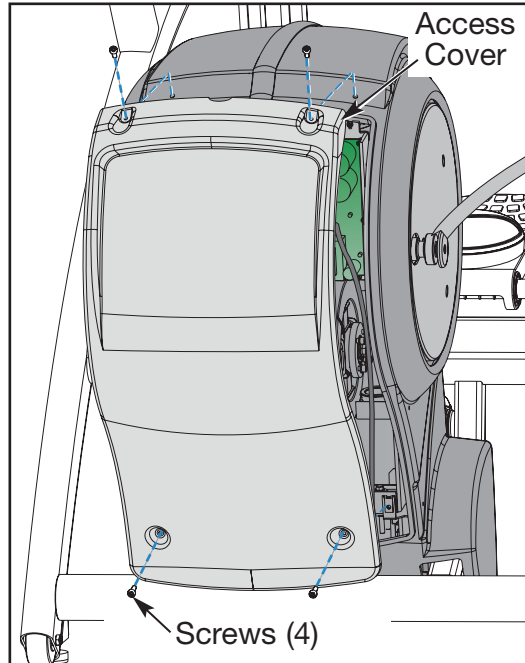

Figure 2
- Turn the main power switch above the power inlet to the off (O) position.
- Using a Phillips head screwdriver, remove the four screws securing the access cover. See Figure 2.
- F. Press **Stop** and turn the power switch to the off (O) position.
- A. While being sure not to pinch any cables, hold the access cover in place. See Figure 2.
- D. While the unit is elevated, turn the main power switch to the off (O) position and unplug the power cord from the power outlet.
- A. Using a Phillips head screwdriver, remove the four screws securing the access cover. See Figure 2.